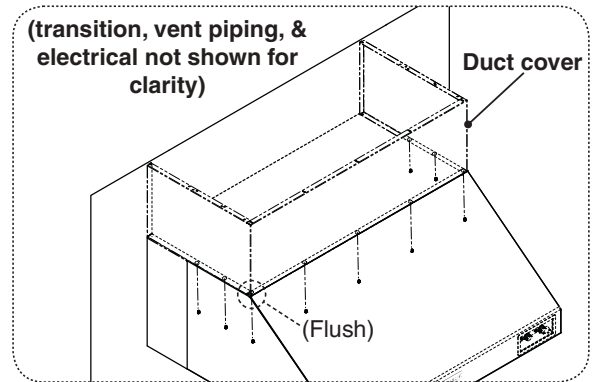

Fig. 19-1 Install Fire Magic Duct Cover
1. Carefully slide the duct cover into the area above the already installed spacer and vent hood. Ensure the bottom perimeter of the duct cover rests flush with the spacer and vent hood. See Fig. 19-1.
2. From beneath the vent hood, use a medium Phillips screwdriver and the 8-32 x 3/8" screws supplied with the duct cover to secure it to the vent hood. (The screws are to be fastened through the pilot holes found on top of the vent hood and into the duct cover above.) See Fig. 19-1